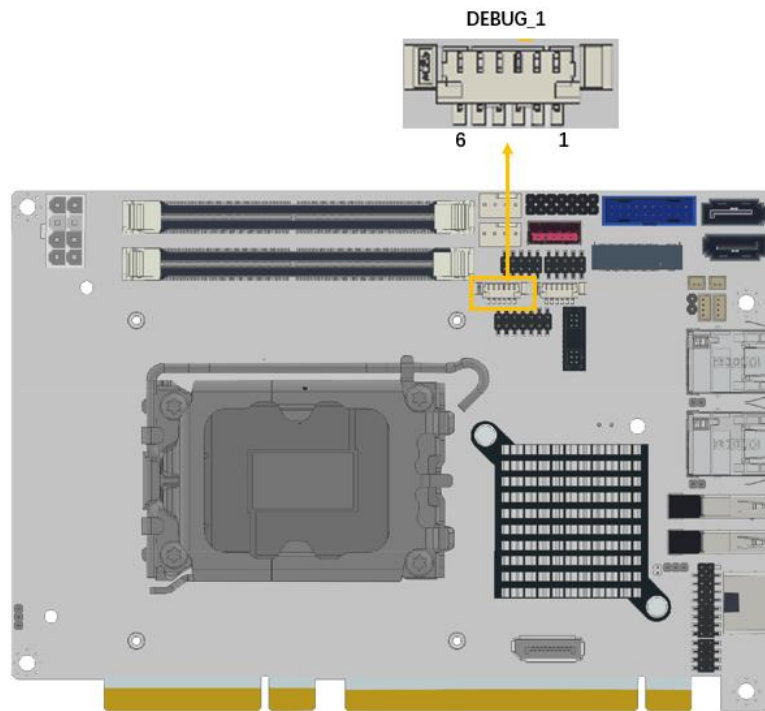

Figure 3-12: EC Debugging Connector Location
- CN Location:** See Figure 3-12